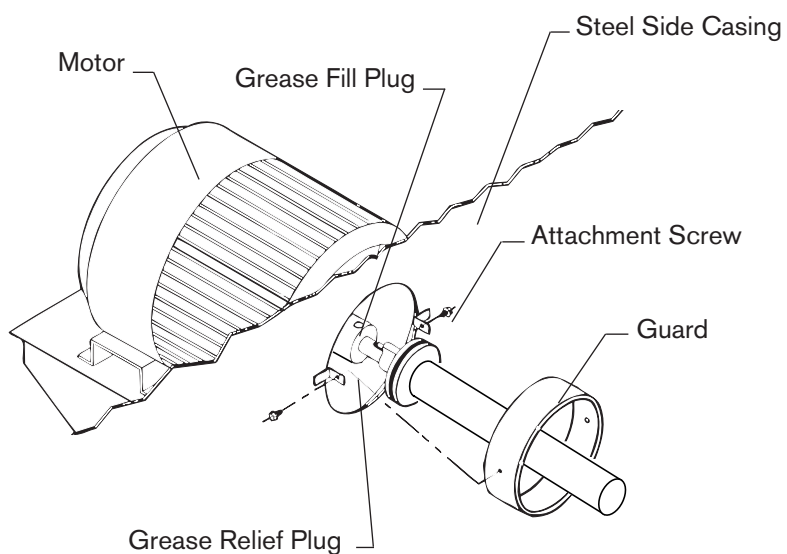

Figure 6
1. Remove guard as shown in Figure 6. Opposite end motor bearing is accessible from outside the fluid cooler.